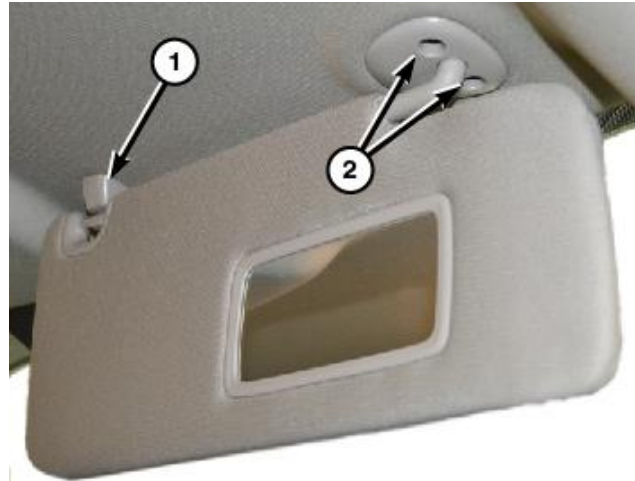

Figure 33 – Visors
28. Separate the visor from the support (1) then remove the screw and remove the visor support (Figure 33).
29. Remove the visor screws (2) then remove the visor (Figure 33).
49. Position the visor supports (1) onto the headliner and install the screws into the mounting clips (Figure 33).
51. Position the visor to the headliner and install the screws (2) that secure the visor to the roof panel. Tighten the screws to 6 N·m (53 in. lbs.) (Figure 33).